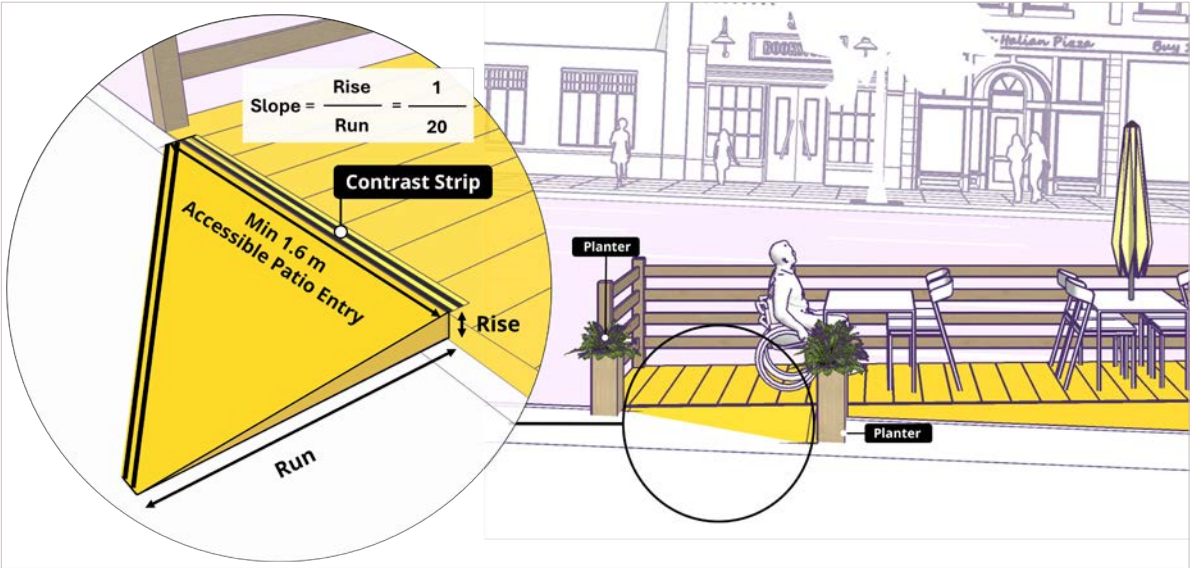

Figure 20: Short ramp onto a terraced deck
- The slope must not be steeper than **1:20**. If the ramp is steeper than **1:20**, a handrail is required (see Figure 20).
- To ensure the short ramp does not become a tripping hazard, planters between **0.75 m** and **1.0 m** in height are required on either side (see Figure 20).
- A contrast strip must be provided at the top and bottom of the ramp (see Figure 20).